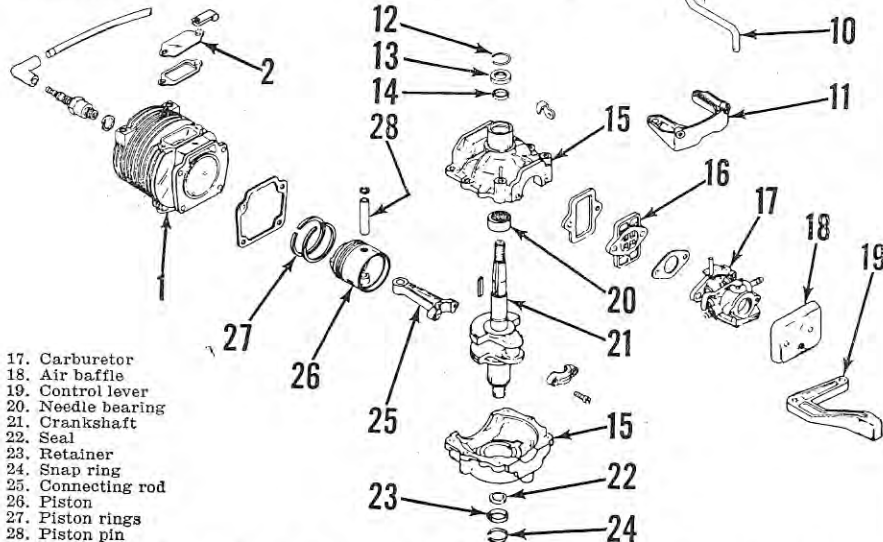
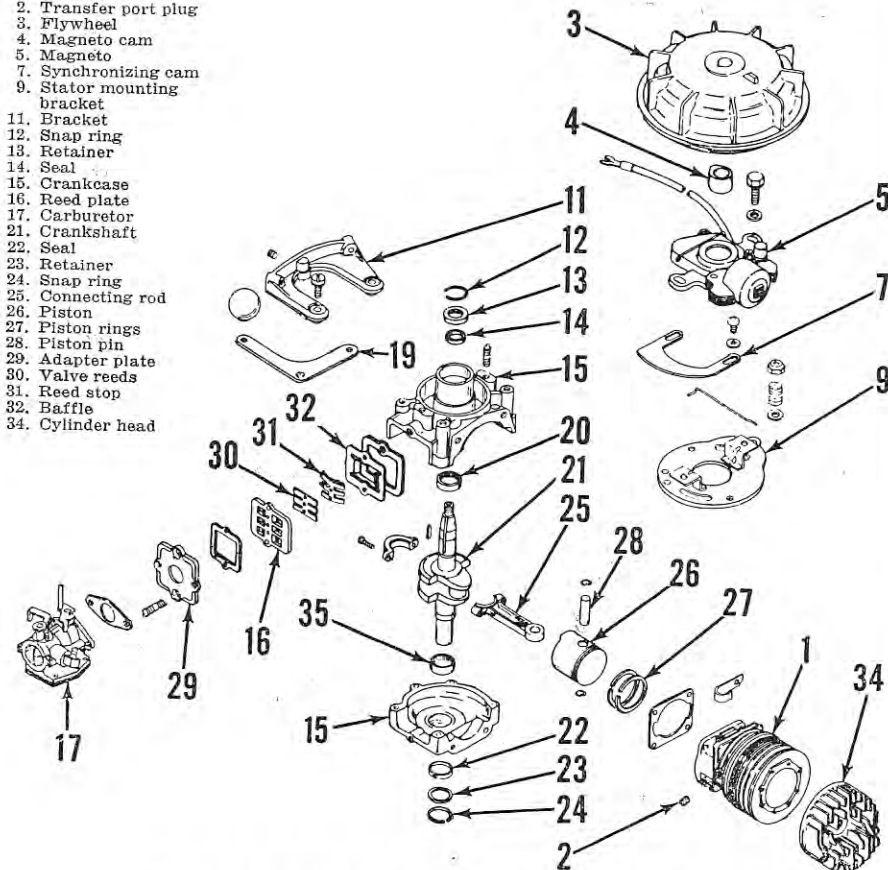

Fig. T8 — Exploded view of late, Model V51 power head especially designed for outboard motor application.
Fig. T9 — Exploded view of power head used on V61 models.
DISASSEMBLY. Model V51 (4 hp) power heads use a closed end cylinder as shown in Fig. T8. Model V61 (5.5 hp) units have a detachable cylinder head (34—Fig. T9), a needle roller lower main bearing (35) and other differences apparent on examination or on reference to Figs. T8 and T9. These differences will be noted where they materially alter overhaul procedure.